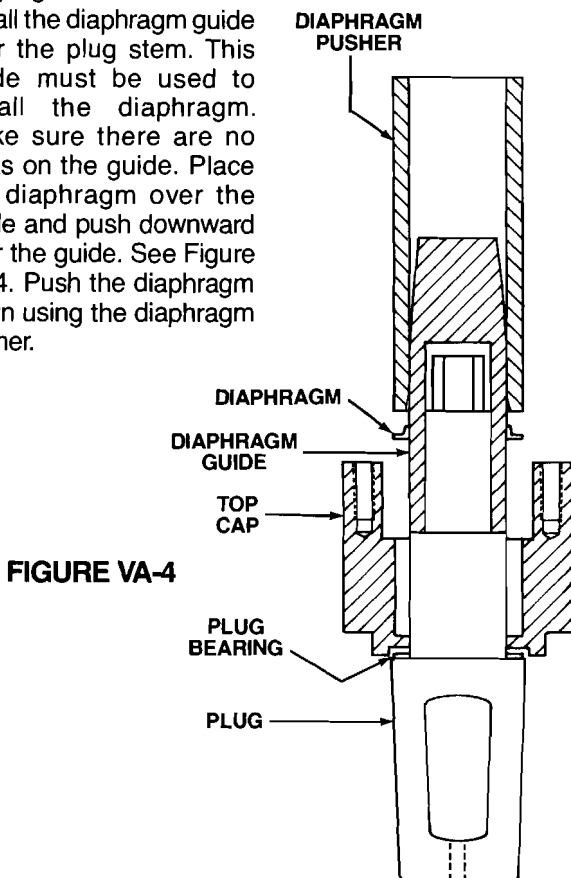

FIGURE VA-4
- The plug bearing is to be placed on the plug as shown in (Figure VA-4). The plug stem and the stuffing box counterbore of the top cap must be repolished, if necessary, until a surface finish of 16 RMS is achieved.
- The top cap is placed on the plug as shown in Figure VA-4. Care must be exercised to insure that the plug stem is not scratched as the top cap is lowered onto the plug.
- Install the diaphragm guide over the plug stem. This guide must be used to install the diaphragm. Make sure there are no nicks on the guide. Place the diaphragm over the guide and push downward over the guide. See Figure VA-4. Push the diaphragm down using the diaphragm pusher.